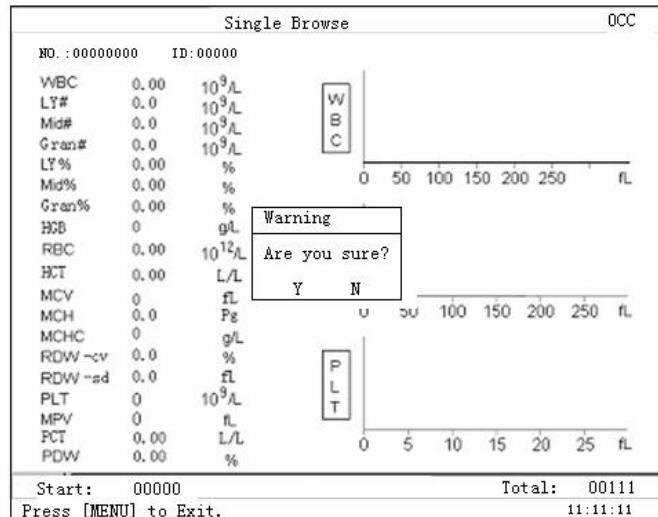

Figure 6-4
- When reviewing to a certain record, press [ID] key and it will delete the record and the system will warn as seen in Figure 6-4. If confirmed to delete, the cursor moves to Y to finish the deletion.